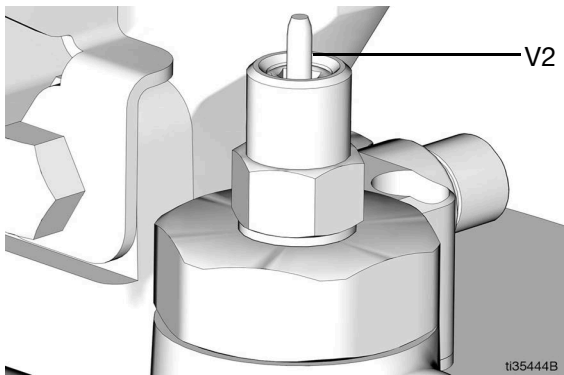

FIG. 13
As grease is added to the tank (K), the follower plate (Y) is pushed to the top of the tank (K) and pushes up the valve pin (V1) which closes the inlet fluid path. Pin (V2) pops up when the tank is full (FIG. 13).